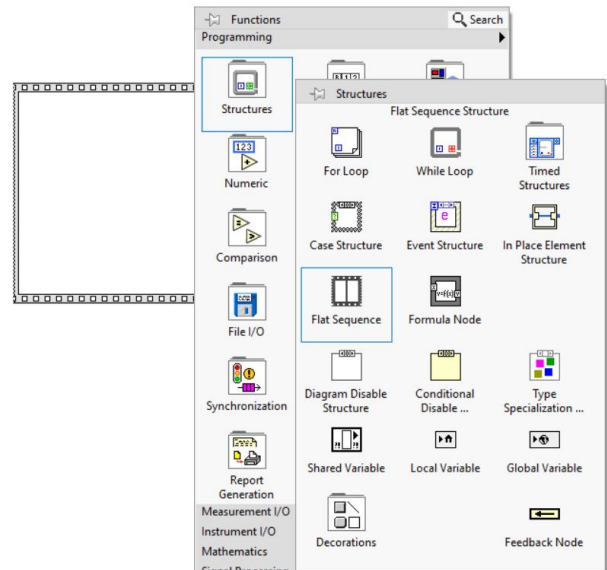

Fig. 1.1 “Flat Sequence”
1. En el Block Diagram, Clic secundario (Function Palette)/Structures/Flat Sequence. (Fig. 1.1)